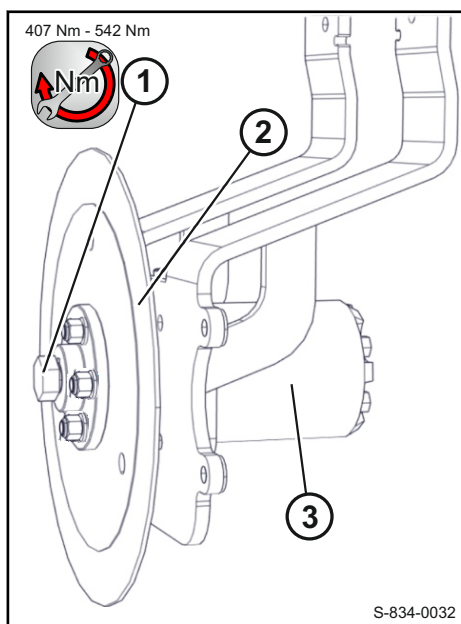

Fig. 260
5. Unscrew hexagon nut 1 ↪ Fig. 260 and pull the drive disc (2) off the travel motor.